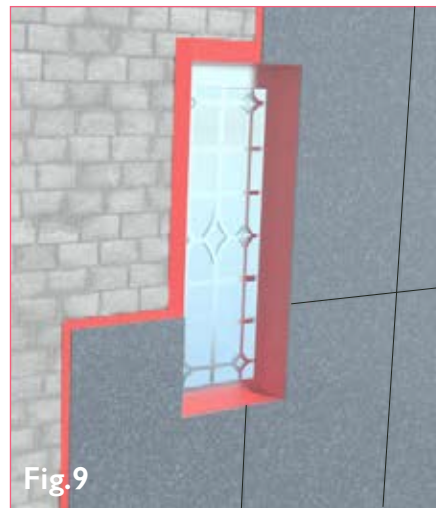

Fig.9
1. Using a utility knife, cut Wraptherm sheets to fit around window and door penetrations. Cut the Wraptherm edge so it is flush with the opening. (Fig.9)